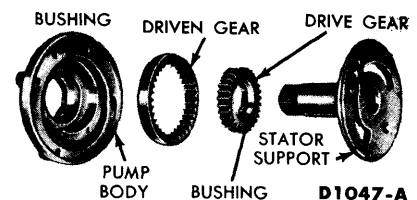

FIG. 37—Front Pump Disassembled
3. Refer to Fig. 37 for a disassembled view of the front pump. Inspect the pump body housing, drive gear bushing, gear pockets, and crescent for scores.